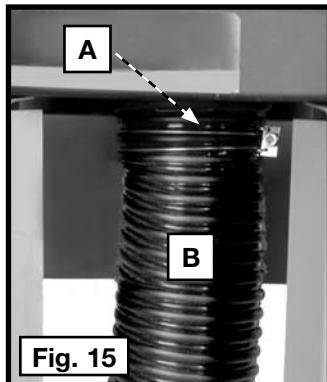

Fig. 15
1. Loosely attach the hose clamp (A) Fig. 15 around one end of flexible hose (B).